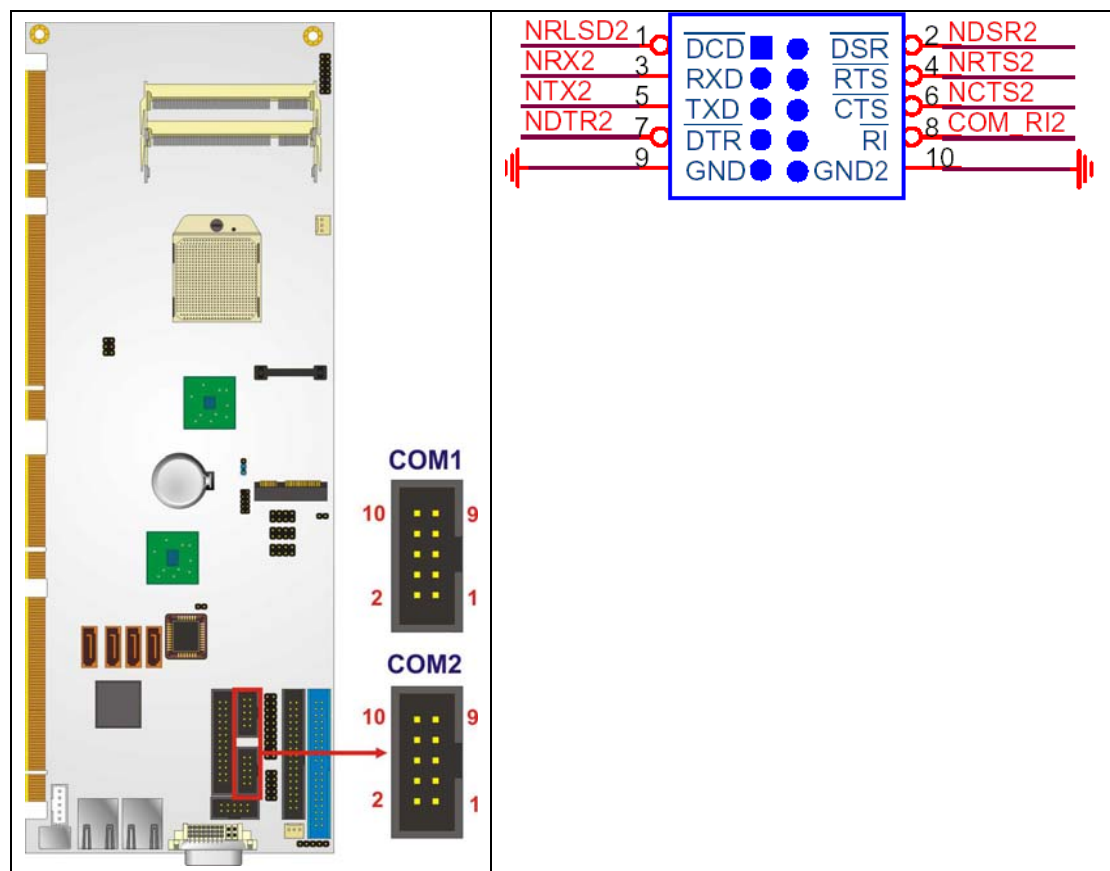

Figure 4-12: Serial Connector Pinout Locations
- CN Location:** See Figure 4-12